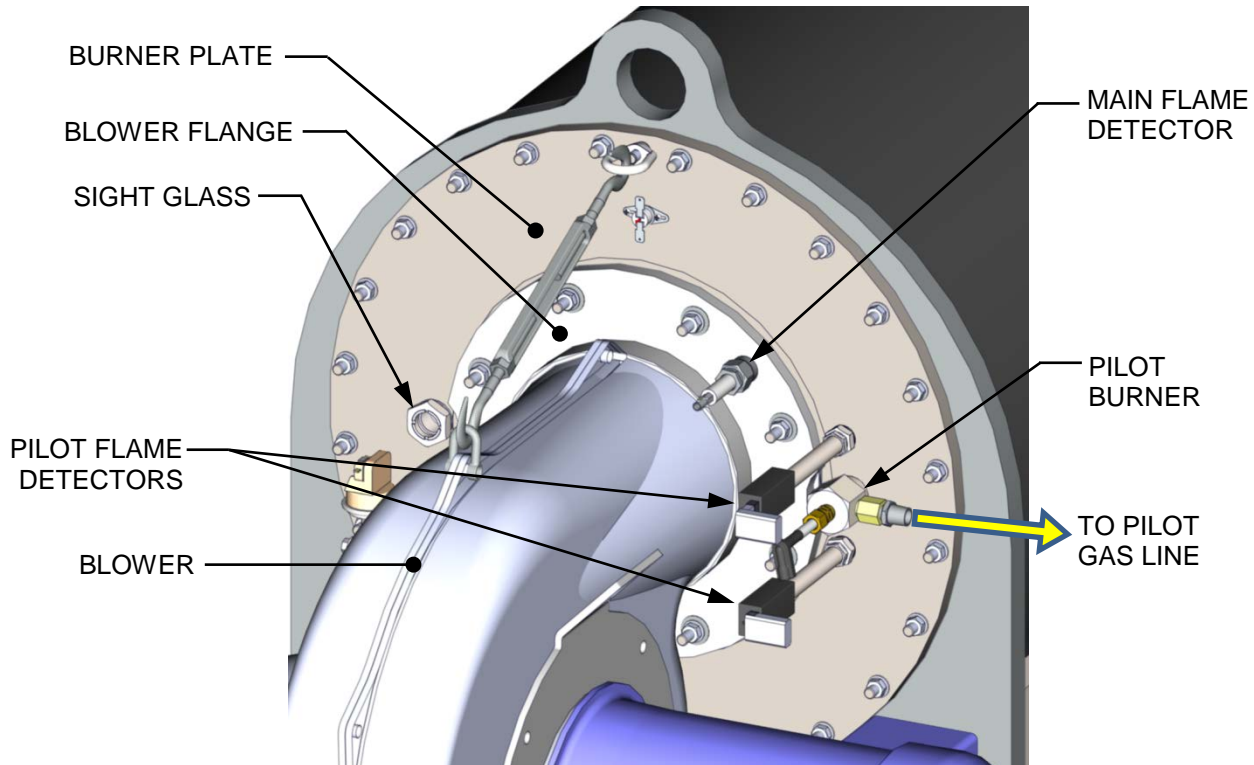
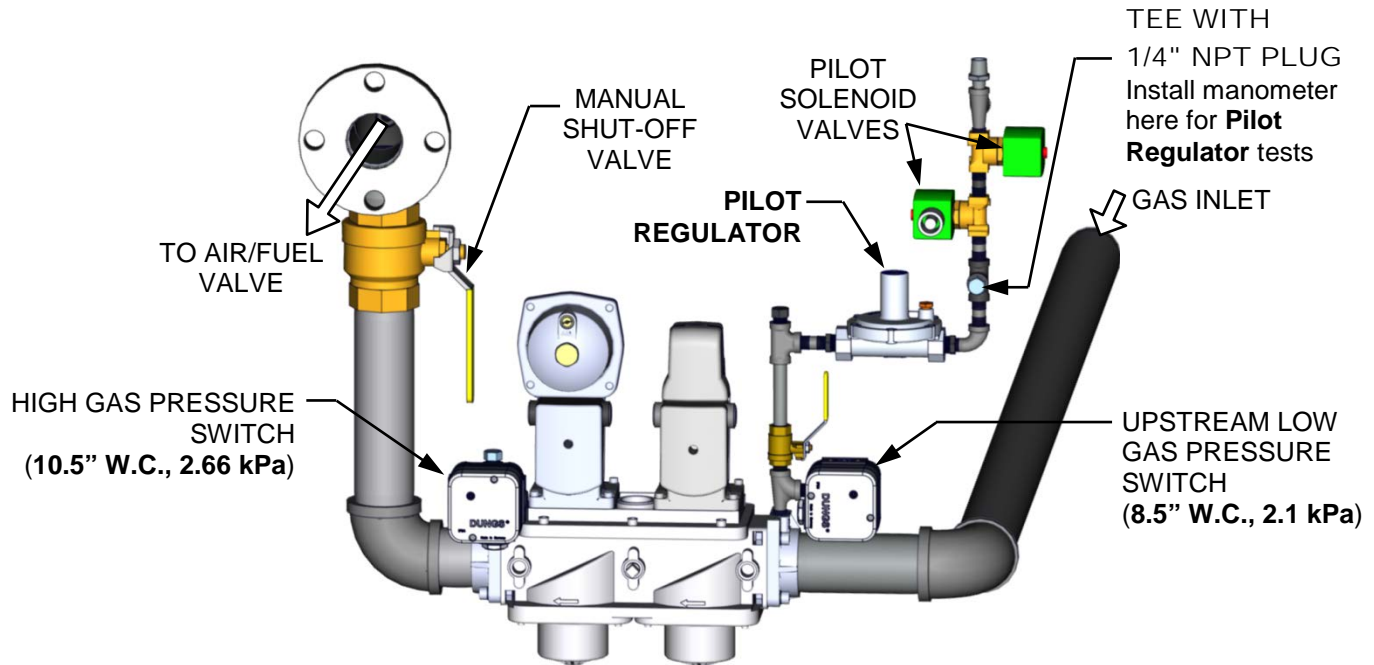

Figure 7-1: Pilot Burner, Main & Pilot Flame Detector Mounting Locations
Figure 7-3: Pilot Regulator Mounting Location
The Pilot Burner (P/N **29700**) is located on the right-front of the Burner Plate. It contains an ignition cable and a Pilot gas line connected to the bushing. Figure 7-1 shows the location of the Pilot Burner and related components.
3. Disconnect the ignition cable from the Pilot Burner (Figure 7-1).
4. Using a 1/2" open-end wrench, disconnect the Pilot gas line from the reducer fitting and elbow shown in Figure 7-1.
The Main Flame Detector (P/N **65182**) is located on the Blower Flange near the top of the unit (see Figures 7-1). The Main Flame Detector may be hot. Allow the unit to cool sufficiently before removing the Main Flame Detector. Inspect or replace the Main Flame Detector as follows:
3. Remove the 1/4” NPT plug from the Tee on the outlet side of the Pilot Regulator (Figure 7-3) and insert a NPT-to-barbed adapter fitting.
5. Remove the cap from the Pilot Regulator to access the gas pressure adjustment. Rotate the regulator adjustment (beneath cap) clockwise (CW) to its highest possible pressure setting.
3. Remove the pipe plug from the 1/4" NPT port on the outlet side of the Pilot Regulator (Figure 7-3) and insert a NPT-to-barbed adapter fitting.
5. Remove the cap from the Pilot pressure regulator and rotate the regulator adjustment (beneath cap) clockwise (CW) to its highest possible pressure setting.
9. Pull one of the Pilot Flame Detectors out (see Figure 7-1) and look into the observation port in the front plate. You should see the orange glow of the Pilot flame during the ignition trial period (see NOTE below).